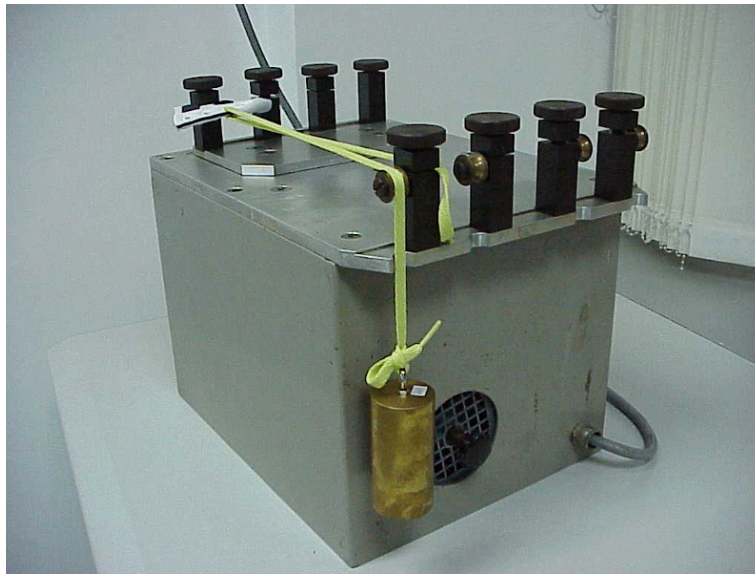

figure 4
6. Attach a weight of 1,000 g (b) to the loose end of the lace and tight it with another immovable clamp (c) (see “*figure 4*”).